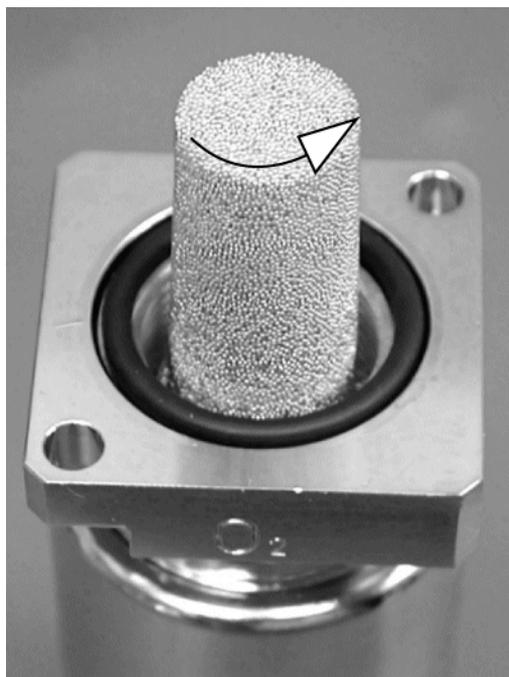

Figure 15 Sintered filter
3. Unscrew the sintered-metal filter of the O₂ NIST connection by turning it counter-clockwise (see Figure 15).